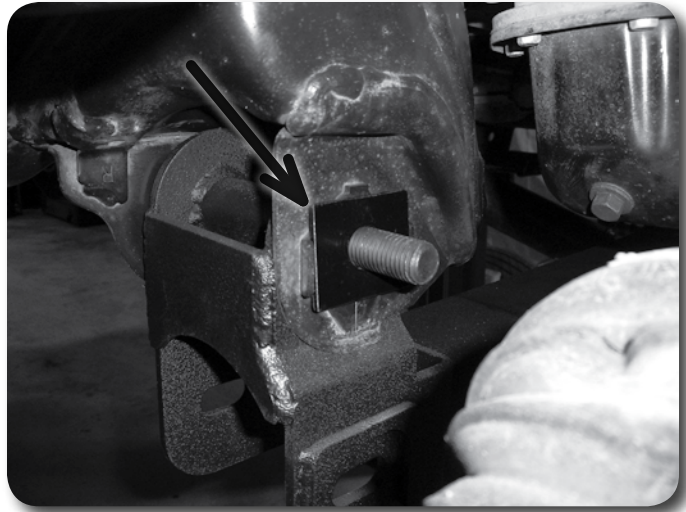

Figure 37A
49. Install the bump stop mounts to the original bump stop location on the frame with 10mm x 25mm bolts and 3/8" USS washers. Before installing the bolt make sure the rectangle cam washer is in place on the crossmember bolt **Figure 37A - installed earlier** and the bump stop mount is positioned over the cam washer. Leave 10mm hardware loose and fasten the mount at the crossmember with a 3/4" washer and 18mm nut. Torque the 10mm bolt to 20 ft-lbs followed by the 18mm bolt to 140 ft-lbs.